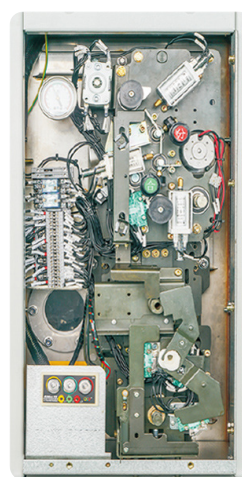
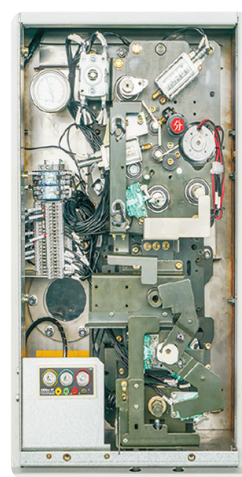

Figure 2-3
Figure 2-4
The electrical and mechanical operating mechanisms (see Figure 2-3 and Figure 2-4) are located on the back of the operation panel.
- **Locking device (see Figure 2-4):**